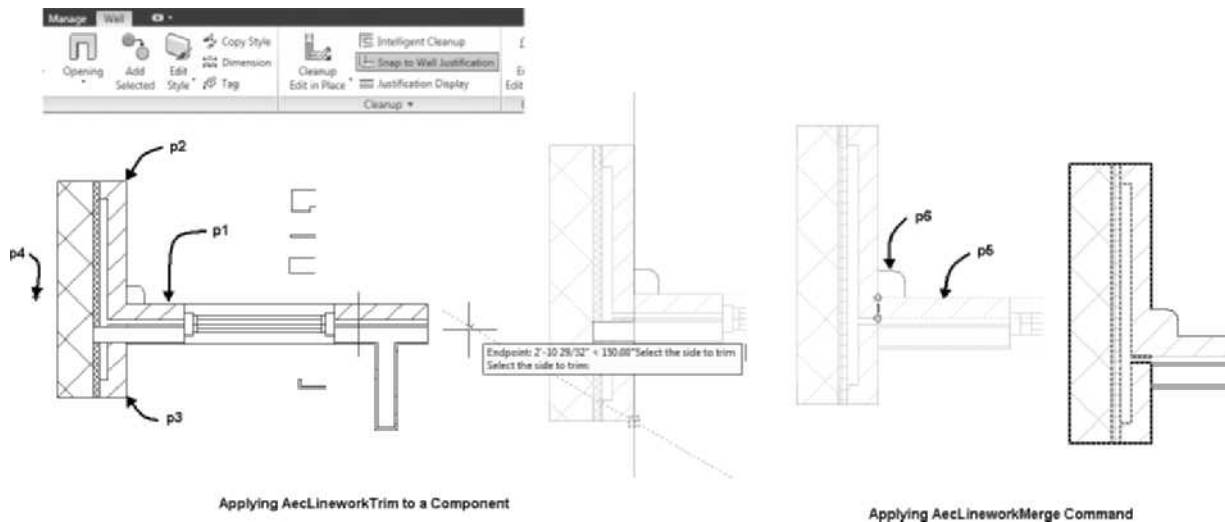

FIGURE 3.53 Edit in Place of wall components
6. In this tutorial, you will modify wall components using **WallCleanupEdit**. Select the wall at p1 as shown in Figure 3.53.
Pick a point at wall joint to edit wall cleanup results: (Select the wall at p1 in Figure 3.53.)
Select the first point of the trim line or ENTER to pick on screen. (Select the wall at p2 shown in Figure 3.53.)
Select the second point of the trim line. (Select the wall at p3 shown in Figure 3.53.)
Select the side to trim. (Select a point near p4 shown in Figure 3.53.)
9. In this step, you will begin the process of merging a component to a closed polyline. Select the wall at **p5** as shown in Figure 3.53. Choose Cleanup Edit in Place from the Cleanup panel. Press ESCAPE to clear selection. Select the brick component at **p5** as shown in Figure 3.53 to display the Edit in Place grips.
Select object(s) to merge or None to pick rectangle. (Select the closed polyline at p6 as shown in Figure 3.53.)